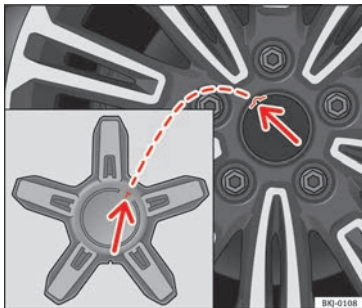

Fig. 80 Fitting the central wheel trim.
- Fit the central wheel trim onto the rim, fitting the protrusion on the trim into the recess in the rim » Fig. 80 (arrows).